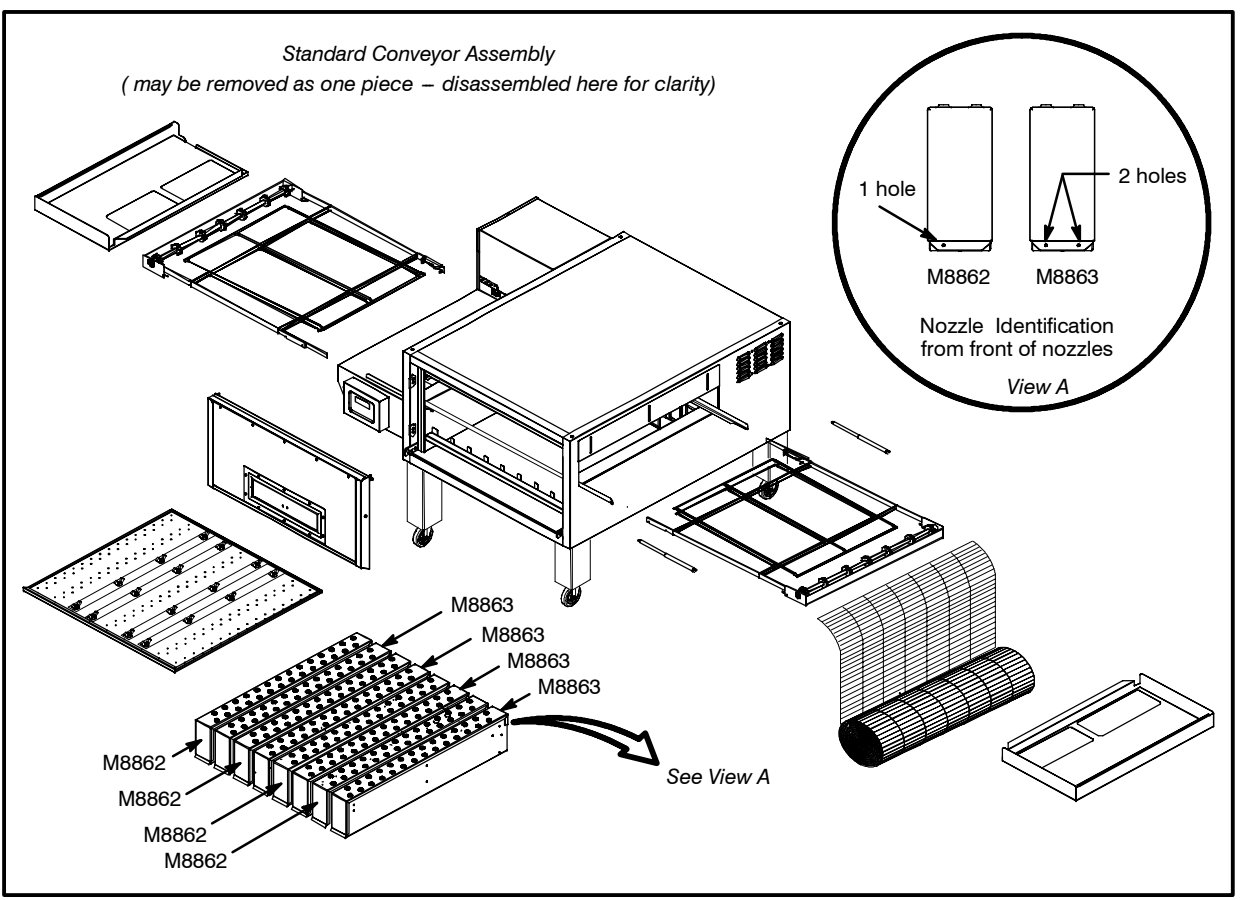

Figure 25
- Slide the belt out from one end. Be sure to roll the belt as shown in Figure 25. Otherwise the belt will be upside down when rethreading.
9. Reassemble the oven. Be sure the nozzles are installed in the correct order. See Figure 25.